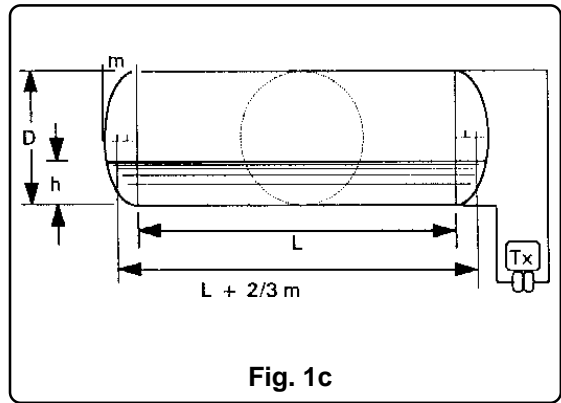

Fig. 1c
c) Cylindrical vessel with elliptical or pseudoelliptical ends (see Fig. 1c). Transmitter measuring the whole vessel height.
where m is the length of the minor ellipse axis (see Fig.1c)